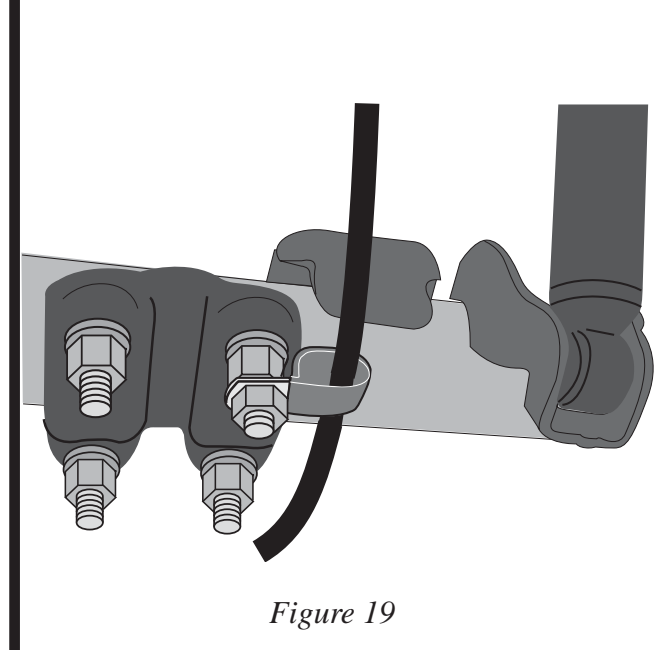

Figure 19
2. Reattach the driver side brake line to the shock bracket using the existing hardware. Attach the driver-side emergency brake cable to the inside, rear U-bolt using the double tube clamp and the supplied 5/8" - 18 jam nut (Figure 19).